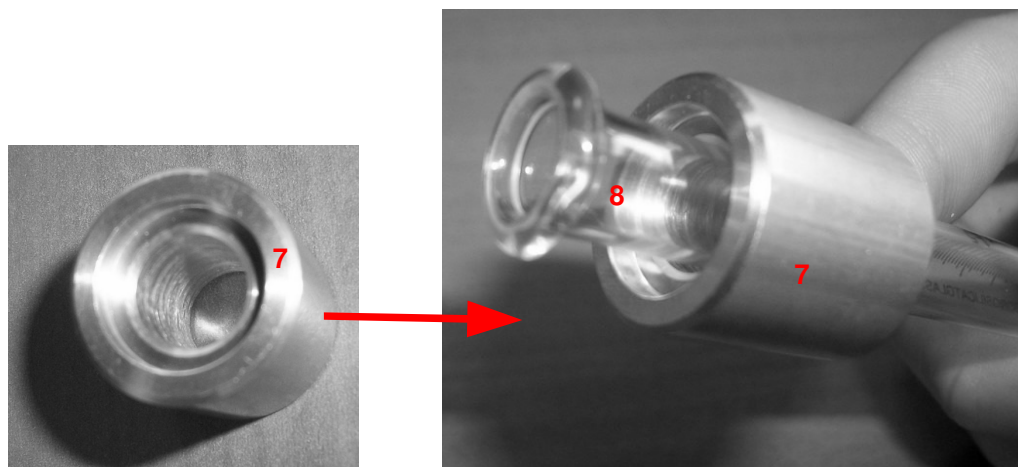

Figure 115: Upper spacer positioning
8. Slide (from the needle side) the upper spacer (number 7 in **Figure 115**) inside the syringe barrel (number 8 in **Figure 115**). Be careful to insert it in the correct orientation.
8. Slide (from the needle side) the 5ml upper spacer (number 7 in **Figure 115**) inside the syringe barrel (number 8 in **Figure 115**). Be careful to insert it in the correct orientation. Please note that 5ml upper spacer has a bigger diameter than the 2.5ml one.
21. Slide (from the needle side) the 1ml upper spacer (number 7 in **Figure 115**) inside the syringe barrel (number 8 in **Figure 115**). Be careful to insert it in the correct orientation. Please note that 1ml upper spacer has a lower diameter than the 2.5ml one.